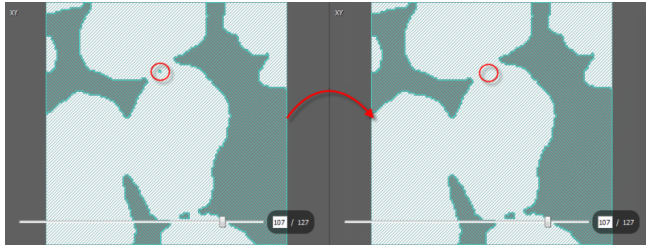

Figure 7.7: Removing islands
- Press *Apply*. The islands are then removed (see Figure 7.7).